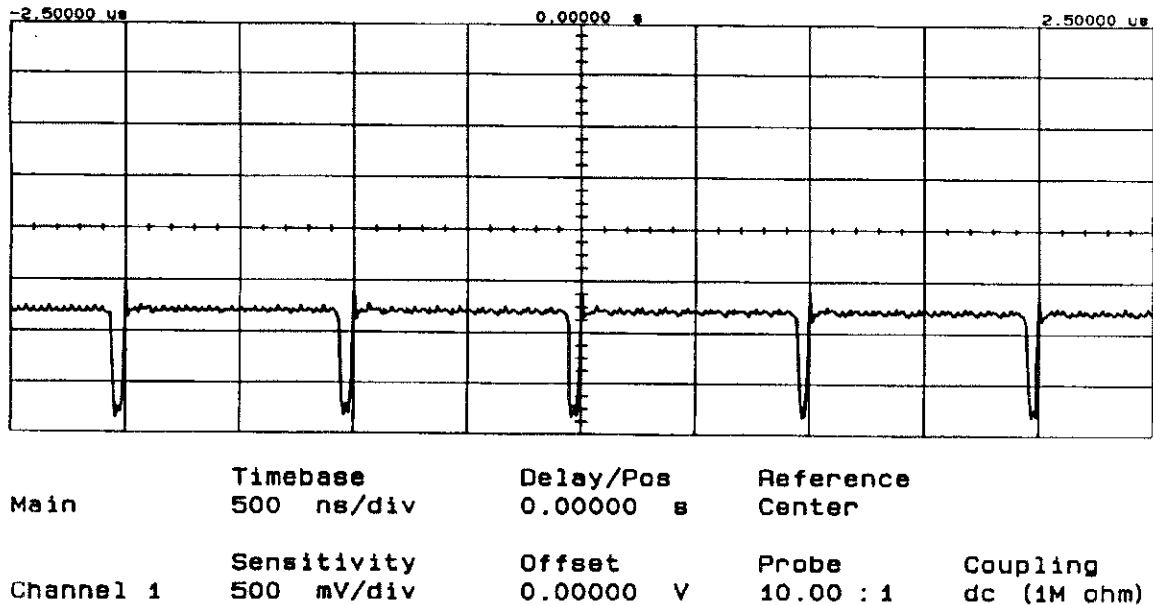

Figure 5-5. Waveform at A1U11(4)
3. Verify the presence of a 1 MHz signal at A1U11(4). See *Figure 5-5*. If the signal is not present or is not correct, then proceed with step 3a.
2. Verify the presence of a 1 MHz signal at A1U11(4). See *Figure 5-5*. If the signal is not present or is not correct, then perform steps 3a through 3h of the Internal Time Base troubleshooting.
3. Verify the voltage at A1U22(5) is between +1 and +9 Volts (typically +4.5 Vdc). If the voltage is correct, then replace the A1 assembly. If the voltage is not correct, then replace the A14 assembly.
4. Verify the voltage at A1U31(2) is a TTL logic level high. If not, replace the A1 assembly.